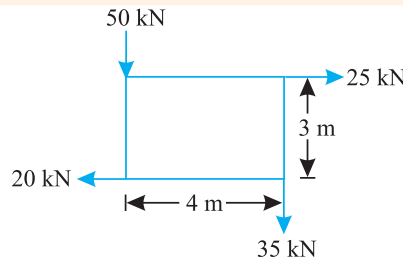

Fig. 2.4.
**Example 2.6.** A system of forces are acting at the corners of a rectangular block as shown in Fig. 2.4.